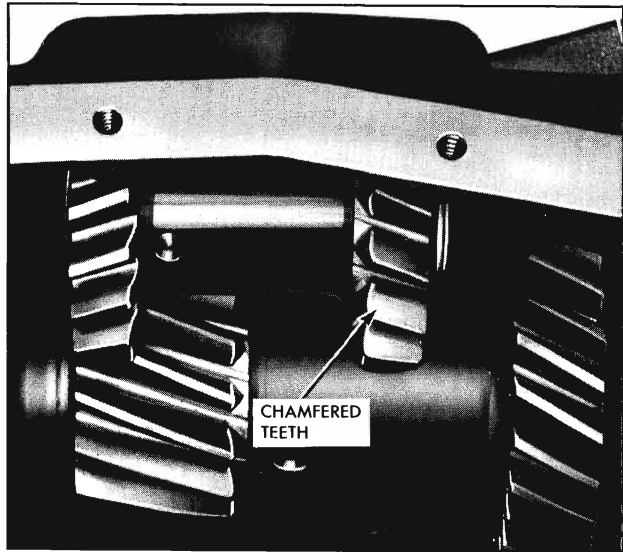

Fig. 7-42 Reverse Idler Gear Installed
5. If reverse idler gear was removed, coat the needle thrust bearing and thrust washer with grease and position them on reverse idler gear in that order. The needle bearing must be against end with chamfered gear teeth (Fig. 7-42). Coat bushings with transmission lubricant.